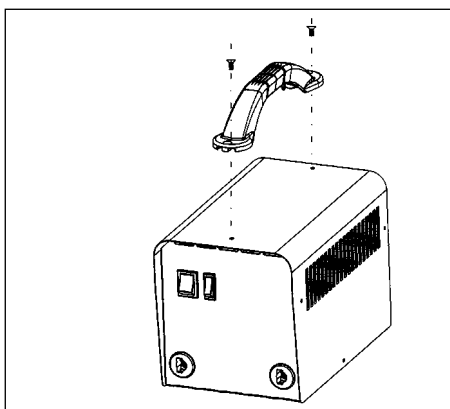

Figure 1
1. Align the end holes on the handle with the holes on top of the welder, then secure with screws (Figure 1).